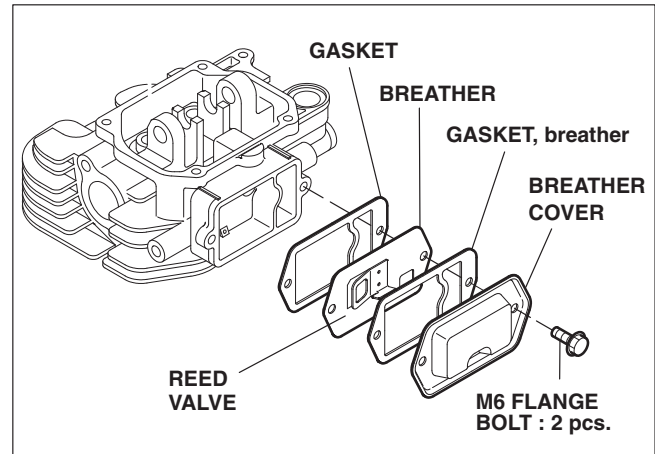

FIGURE 6-12.
2. Position the breather plate so the reed valve is opens away from the cylinder head. (Figure 6-12.)